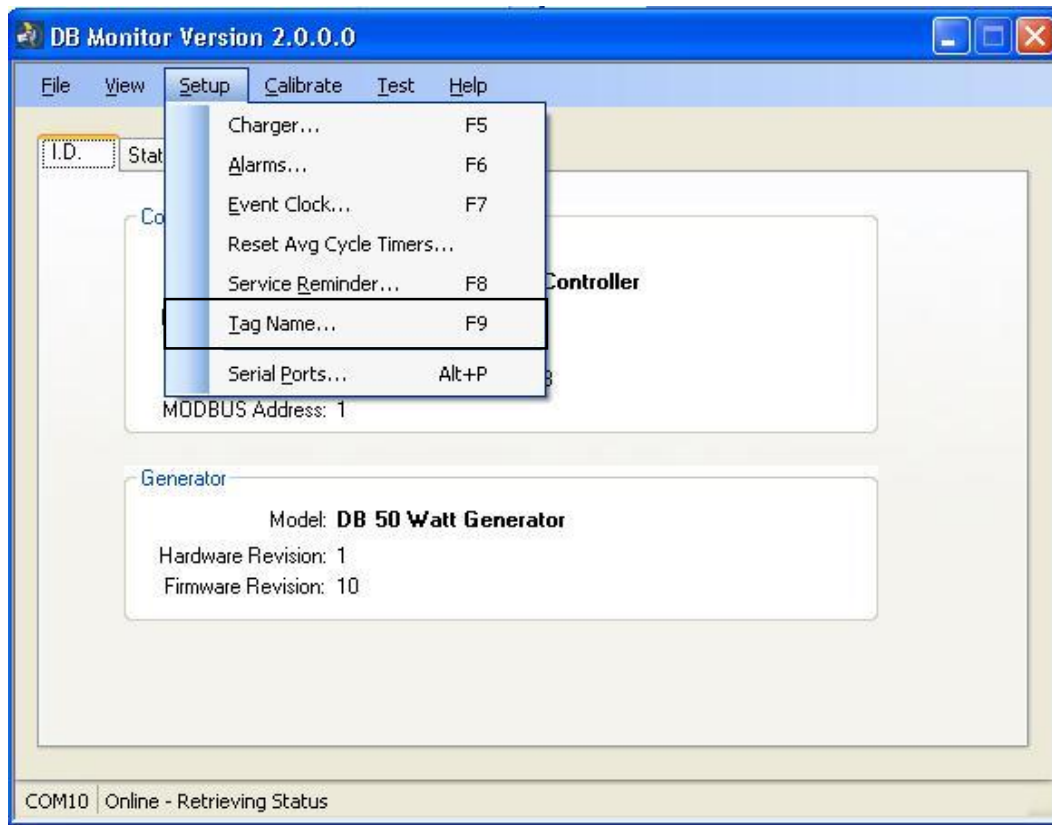

Figure 3-11. Select Tag Name from DB Monitor Setup menu
1. From the menu bar, click **Setup > Tag Name** (or press the **F9** key). See Figure 3-11 below.